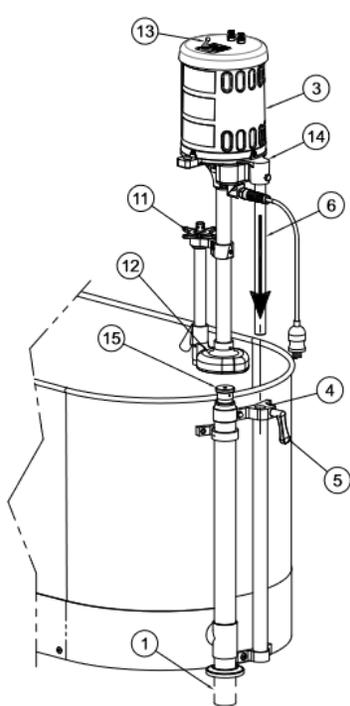
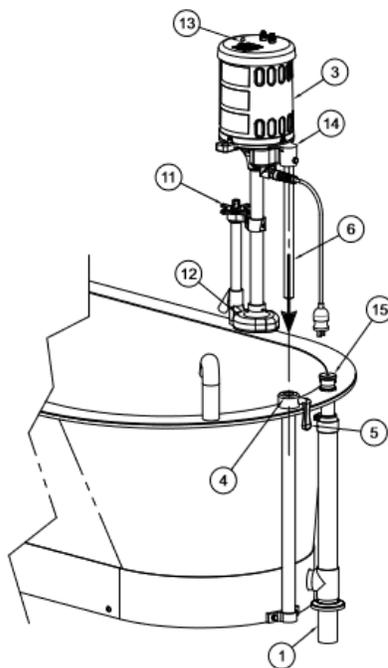

Figure 8: -S model with standard drain and overflow
Figure 9: WHSB-100-S with standard drain and overflow
- b. Lift discharge nozzle (5) from storage socket (6) and place in sink.
- c. Turn pressure control valve handle (3) fully counterclockwise. This diverts water to the hose (1).
- d. Place and hold discharge nozzle (5) into sink then turn the turbine power switch (4) on to start draining to sink.
- e. When water stops discharging from the nozzle, turn the turbine power switch (4) off.
- f. Drain remaining water using drain valve (2) or by using a dry sponge.
- a. Standard drain and overflow (Figure 8 and Figure 9): Lift combination drain and overflow assembly handle (15).